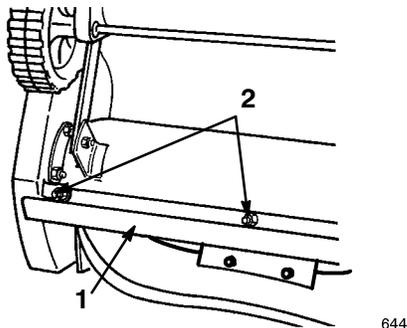

Figure 18
- 8. Remove the three carriage bolts and the locknuts that hold the scraper in place (Fig. 18).